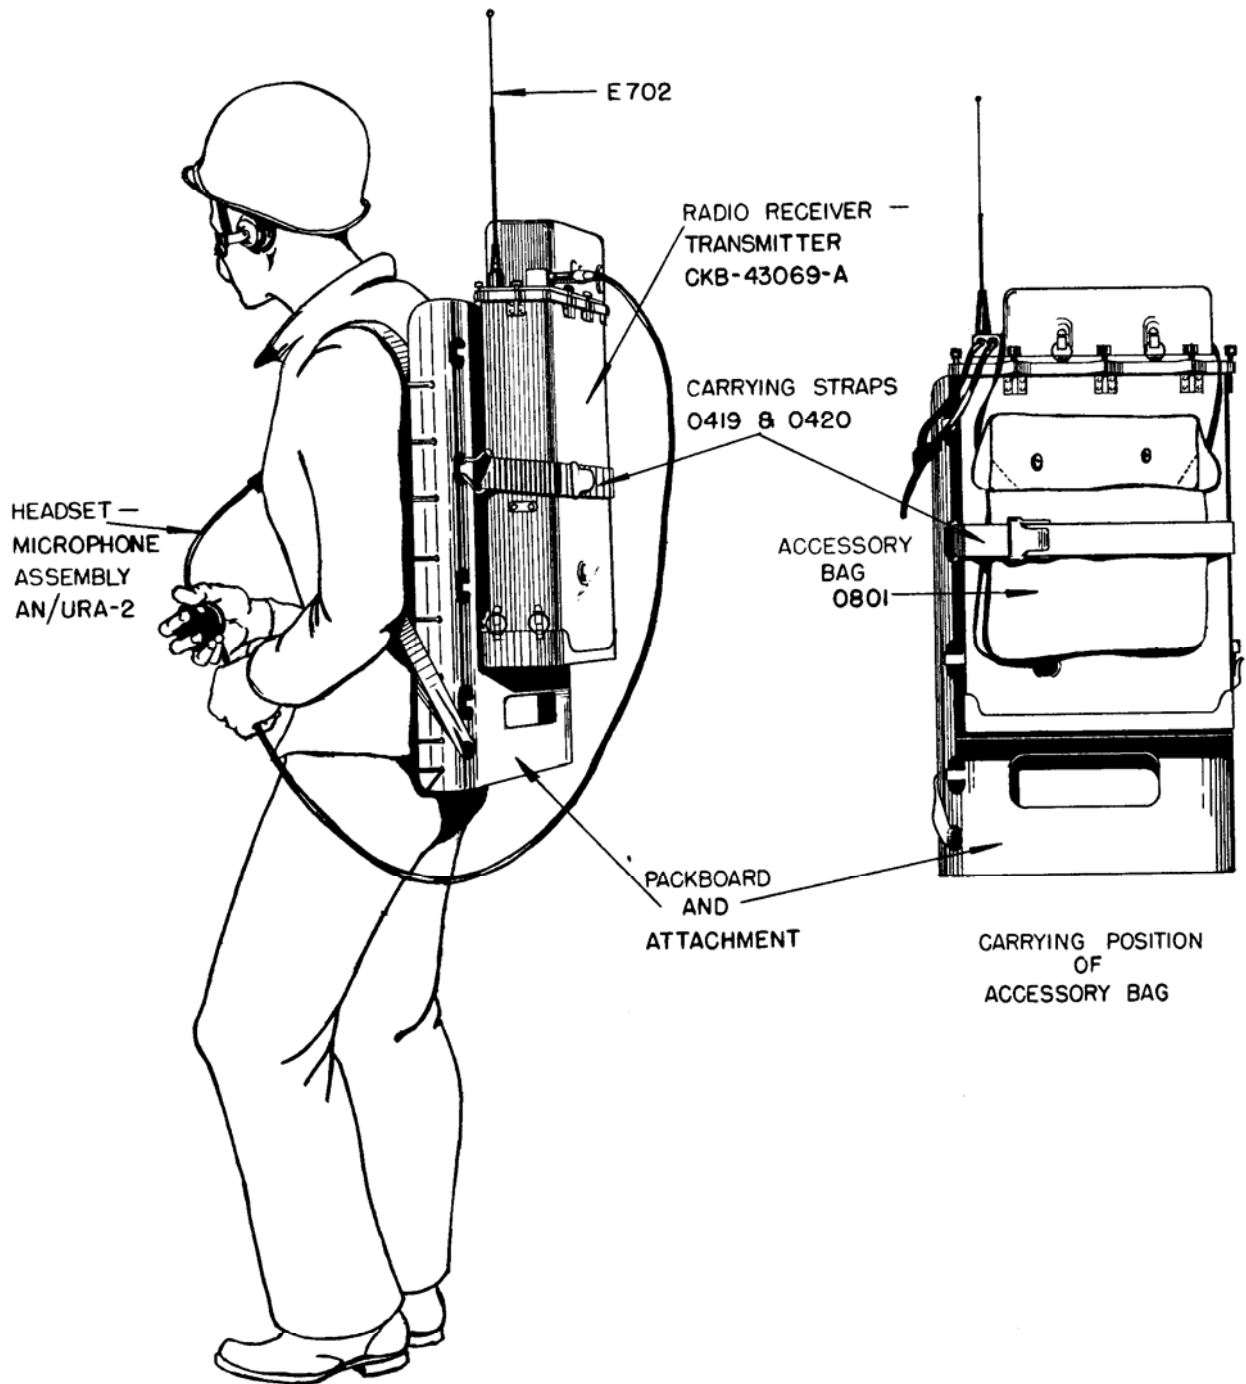

Figure 4-4. Packboard Operation of MAW-1 Equipment
**b. MOUNTING ON PACKBOARD.** (See figure 4-4 and table 4-1.)—If the Receiver-Transmitter is to be carried by packboard, place the packboard on the ground with canvas side down and clip the attachment bracket on the plywood board at the second opening from the bottom. Place the Receiver-Transmitter unit on the packboard with the antenna side of the carrying case down and with the bottom of the carrying case resting against the attachment bracket. If the unit is positioned correctly, the control panel will extend just beyond the top edge of the packboard. The two keepers